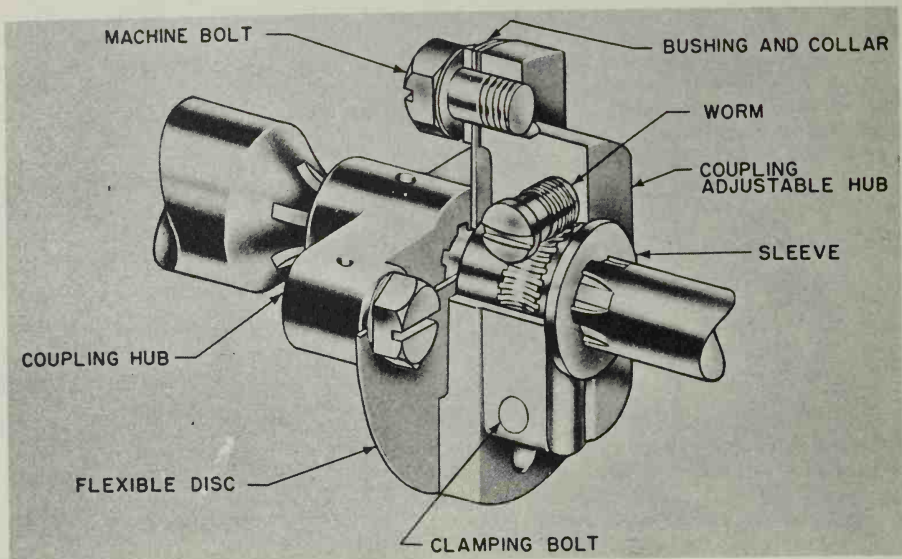

Figure 11-23.—Adjustable flexible (vernier) coupling.
4. The adjustable flexible (vernier) coupling (fig. 11-23) is simply a combination of the flexible disk coupling and the adjustable (vernier) coupling.